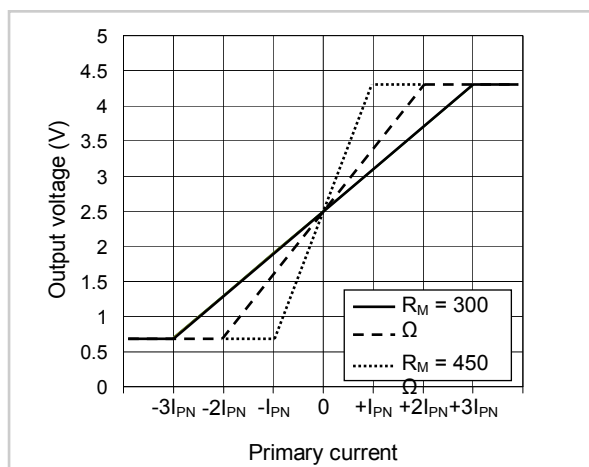

Fig. 2: Characteristic of primary current to output voltage according to different  $R_M$ .  $V_{refout} = 2.5\text{ V}$ .
3) Output voltage is scaled by changing  $R_M$  but not beyond these limits. See Fig. 2.
4)  $R_M > 300\ \Omega$ : reduces  $I_{PR}$  but increases  $G_V$ . See Fig. 2.